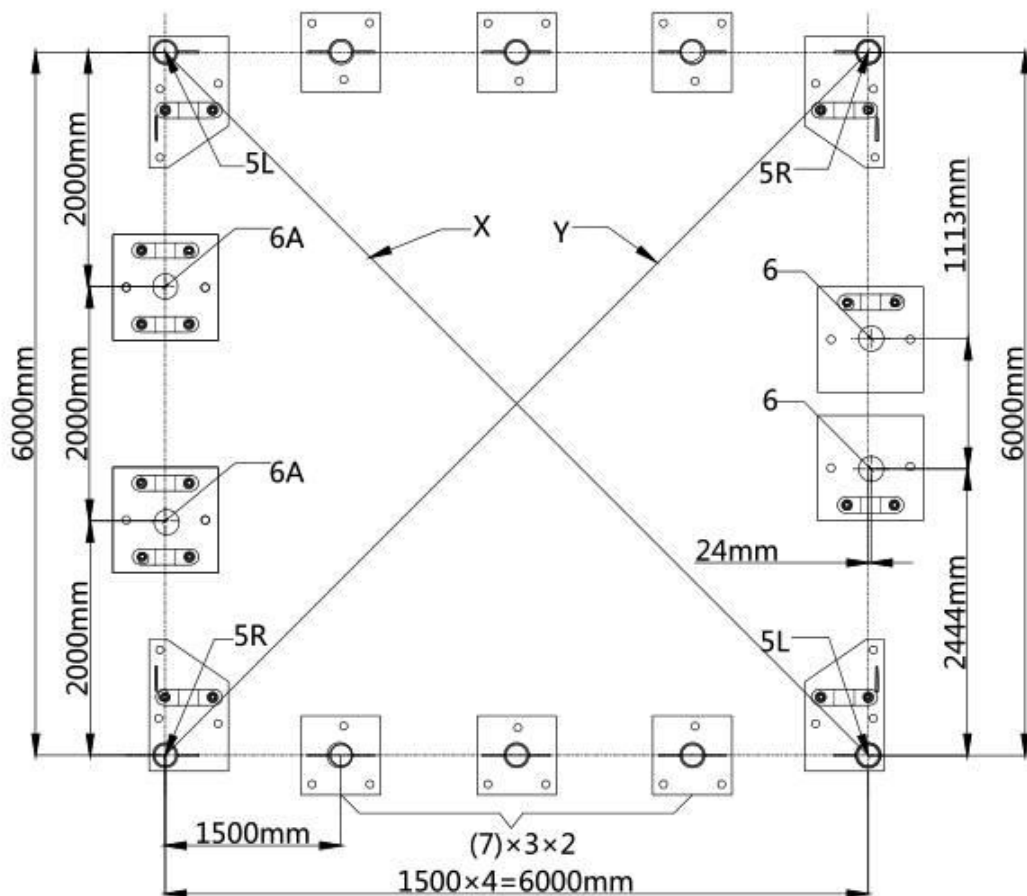

Figure 1
- Baseplates: all baseplates must be installed firmly with expansion bolts (#16) on this step (refer to figure 1).
- (4) Baseplate (#5L,#5R)
- (6) Baseplate (#7)